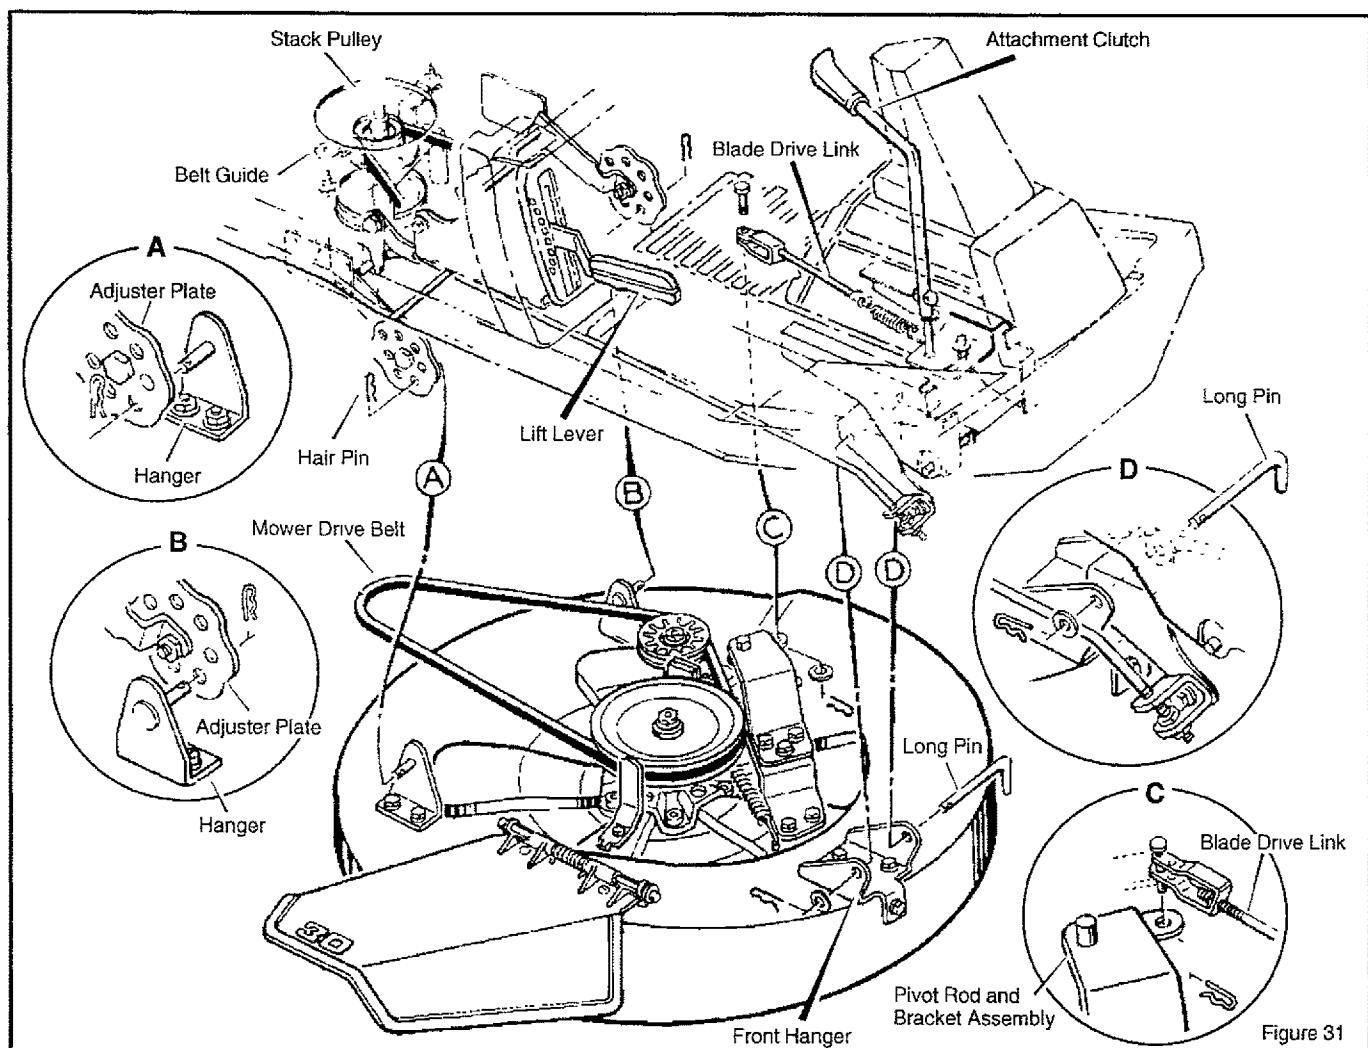

Figure 31
2. Move the **attachment clutch** to the DISENGAGE position (Figure 31)